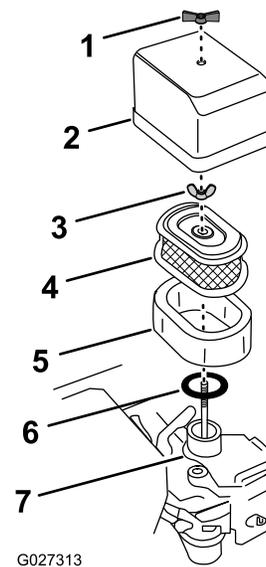

Figure 19
3. Wipe clean the air filter cover (Figure 19).
4. Remove the wing nut that secures the air-filter cover to the carburetor and remove the cover (Figure 19).
5. Remove the foam filter element from the paper filter element (Figure 19).
7. Remove wing nut that secures the paper filter element to the carburetor (Figure 19).
4. Assemble the foam element onto the paper filter element (Figure 19).
1. Wipe clean the dirt from the carburetor base and the inside of the cover with a moist rag (Figure 19).
2. Ensure that the rubber gasket is aligned and seated onto the mounting base of the carburetor (Figure 19).
3. Align the paper filter element with the carburetor and ensure that the hold-down rod of the carburetor passes through the top plate of the filter (Figure 19).
4. Securely the filter to the carburetor with the filter wing nut and tighten it finger tight (Figure 19).
5. Align the air-filter cover over the air filter elements with the with the hold-down rod of the carburetor passing through the top cover (Figure 19).
6. Secure the cover to the engine with the cover wing nut and tighten it finger tight (Figure 19).